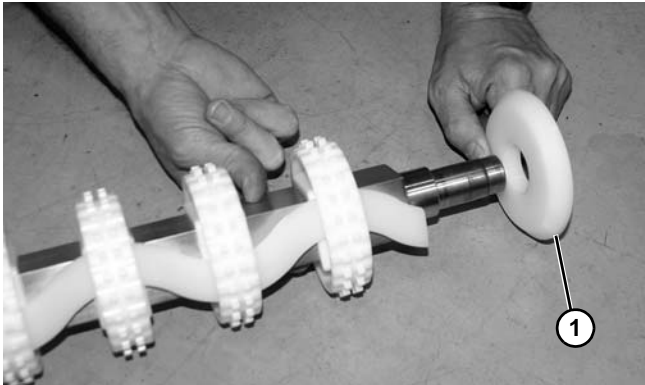

Figure 76
16. Remove guard puck (Figure 76, item 1) from both ends of drive spindle.